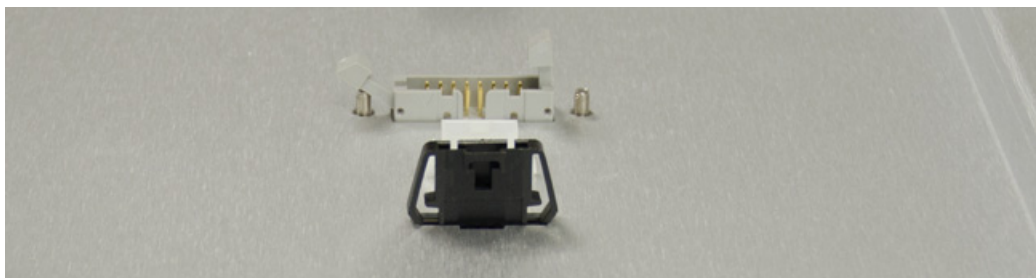

Figure 12 Cable connections on top base plate
- 6 Connect the cooling plate cables to the cable connections (Figure 12).